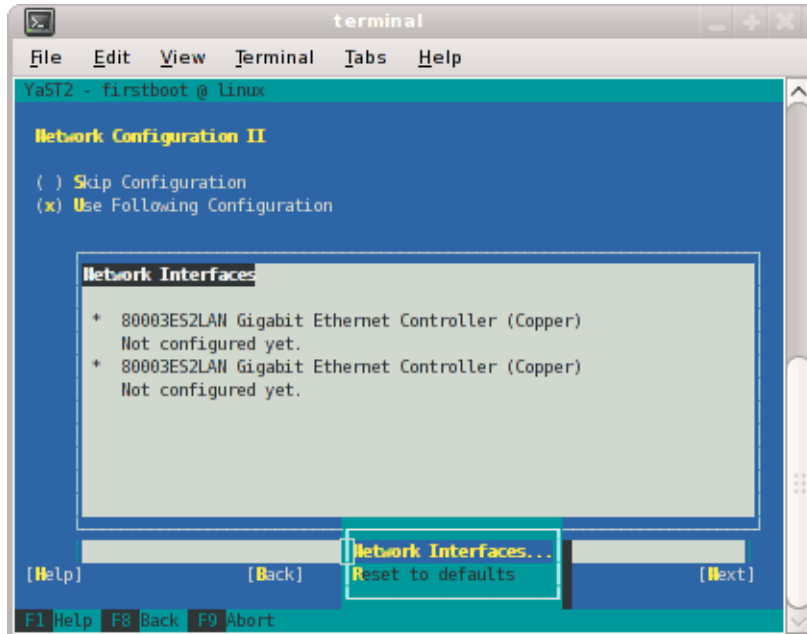

Figure 2-11 Network Configuration II Screen
4. The **Network Configuration II** screen appears, as shown in Figure 2-11 on page 46. Select **Change** and a small window pops up that lets you choose **Network Interfaces...** or **Reset to Defaults**. Choose **Network Interfaces**.